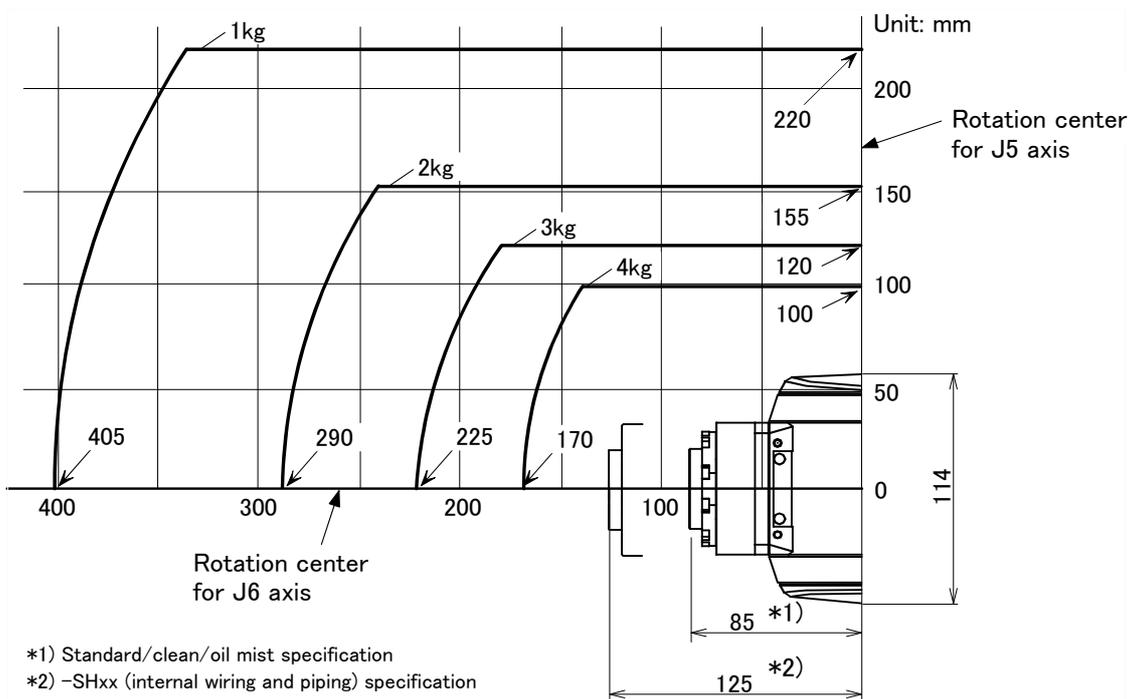
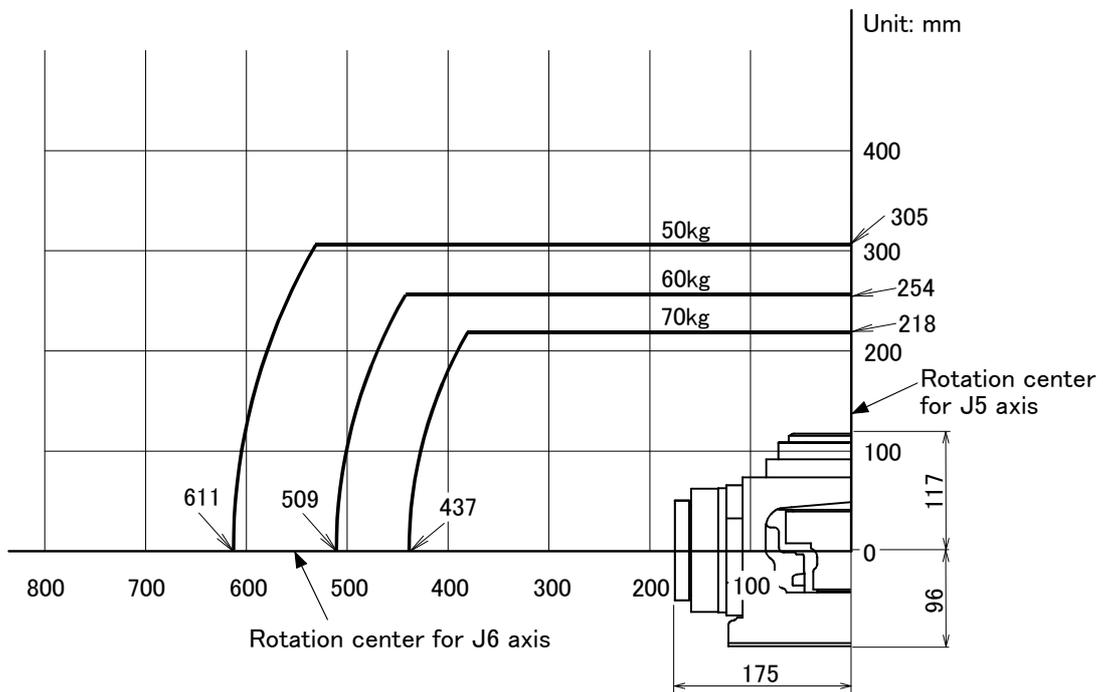

Fig.2-1 : Position of center of gravity for loads (for loads with comparatively small volume): RV-4F/4FL/4FJL
Fig.2-7 : Position of center of gravity for loads (for loads with comparatively small volume): RV-70F
- (1) The tooling should have the value less or equal than the smaller of the tolerable inertia and the tolerable moment found in Page 17, "2.1.1 Basic specifications".
- (2) Fig. 2-1 to Fig. 2-7 shows the distribution dimensions for the center of gravity in the case where the volume of the load is relatively small. Use this figure as a reference when designing the tooling.
- (3) Even if the load is force, not the mass, design the tooling so that moment does not exceed the allowable moment. Refer to Page 17, "2.1 Standard specifications" for details of allowable moment value.